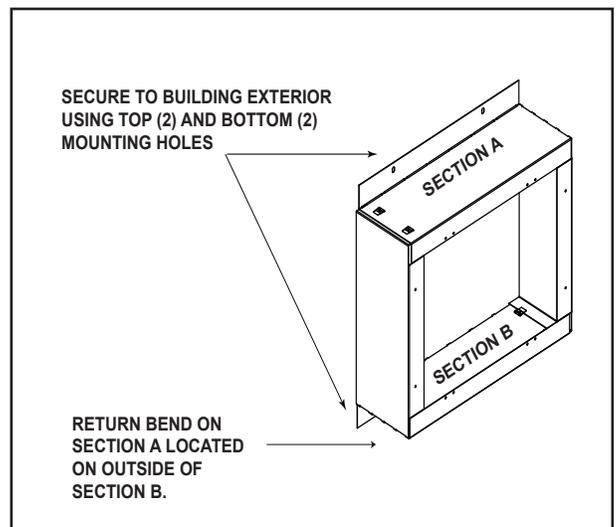

Figure 3.18 BEK Assembled
12. Use the supplied screws to assemble the box as shown in Figure 3.18. The return bend on section A should be located on the outside of section B.